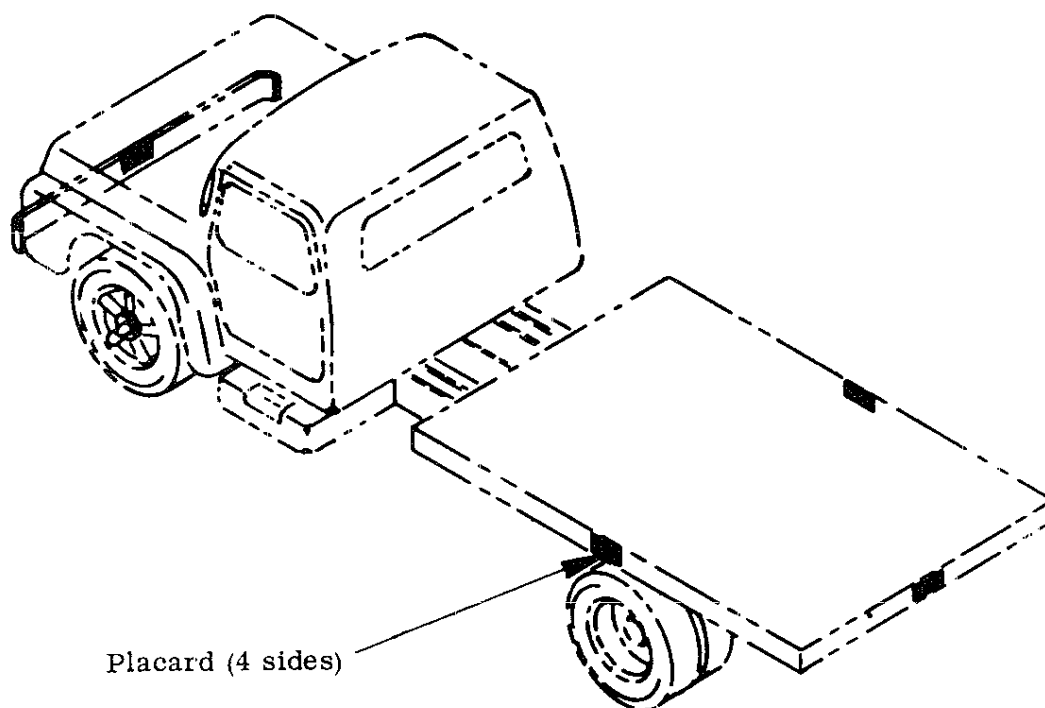

Figure H-3. Electrocution Placards
- 13 Install "Electrocution" placards (Figure H-3).